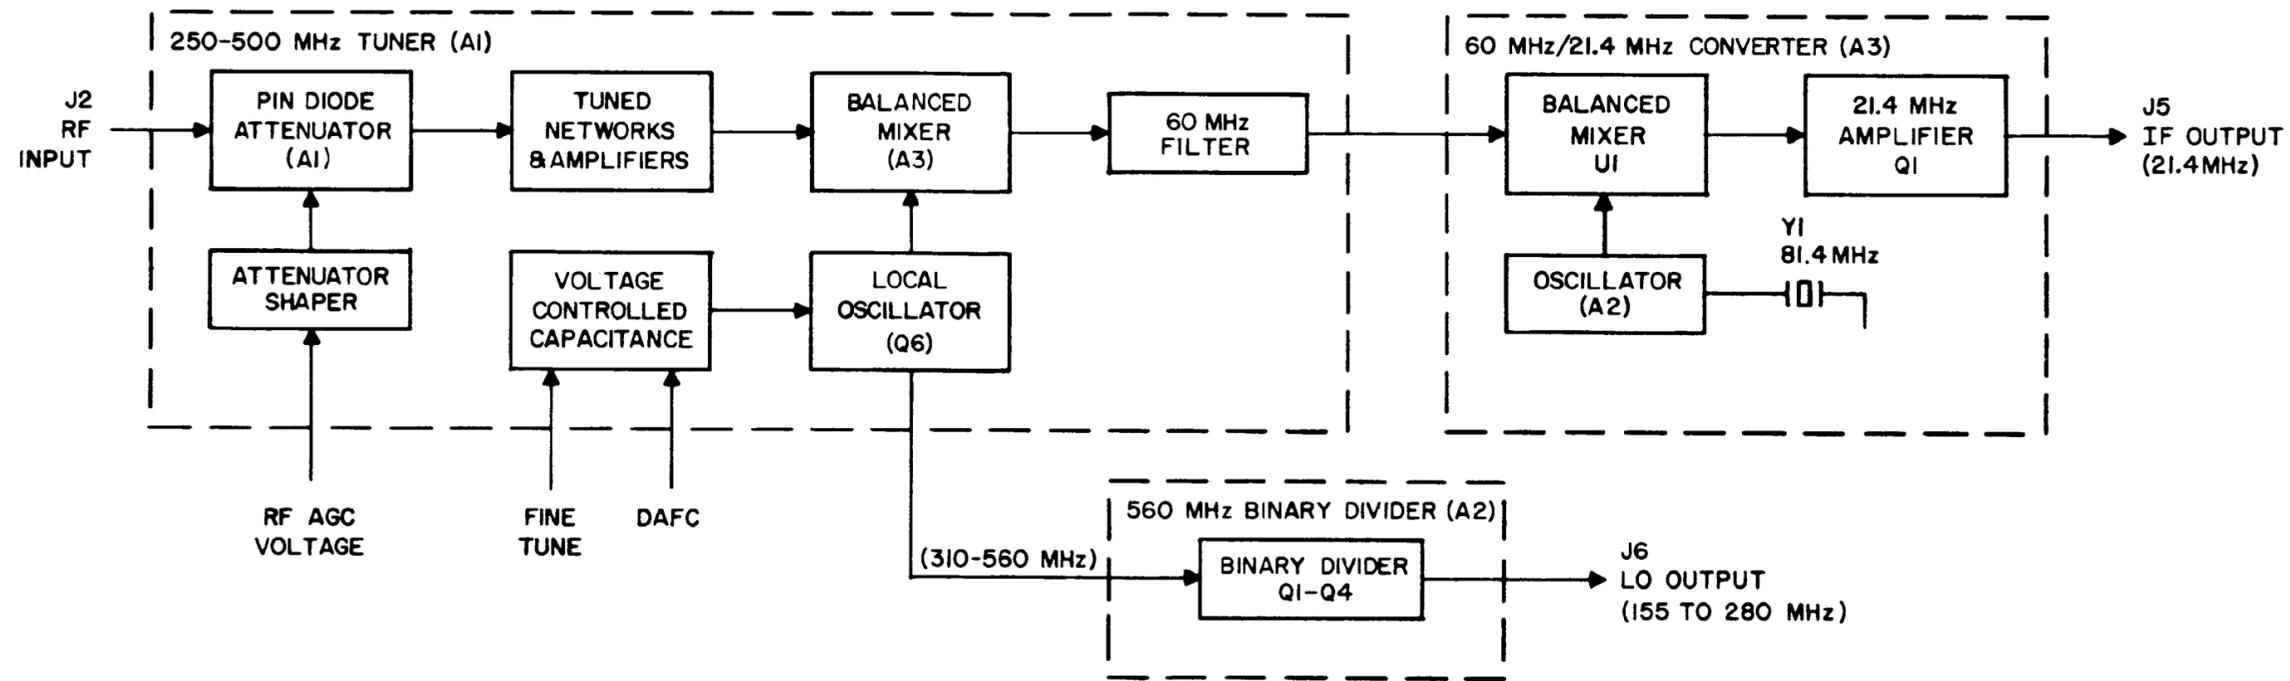

Figure 3-1. Type WJ-9124 Tuner Assembly Functional Block Diagram
**3.1.1** Operation of the circuitry found in the WJ-9124 Tuner Assembly is described in the following paragraphs. Figure 3-1 is an overall functional block diagram of the WJ-9124 and should be referred to along with the figure stated in the paragraphs. Note that the unit numbering system is used for electrical components, which means that parts on subassemblies and modules carry a prefix before the usual class letter and number of the item (such as A1Q1 and A3C1). These subassembly prefixes are omitted on illustrations and in the text except in those cases where confusion might result from their omission.